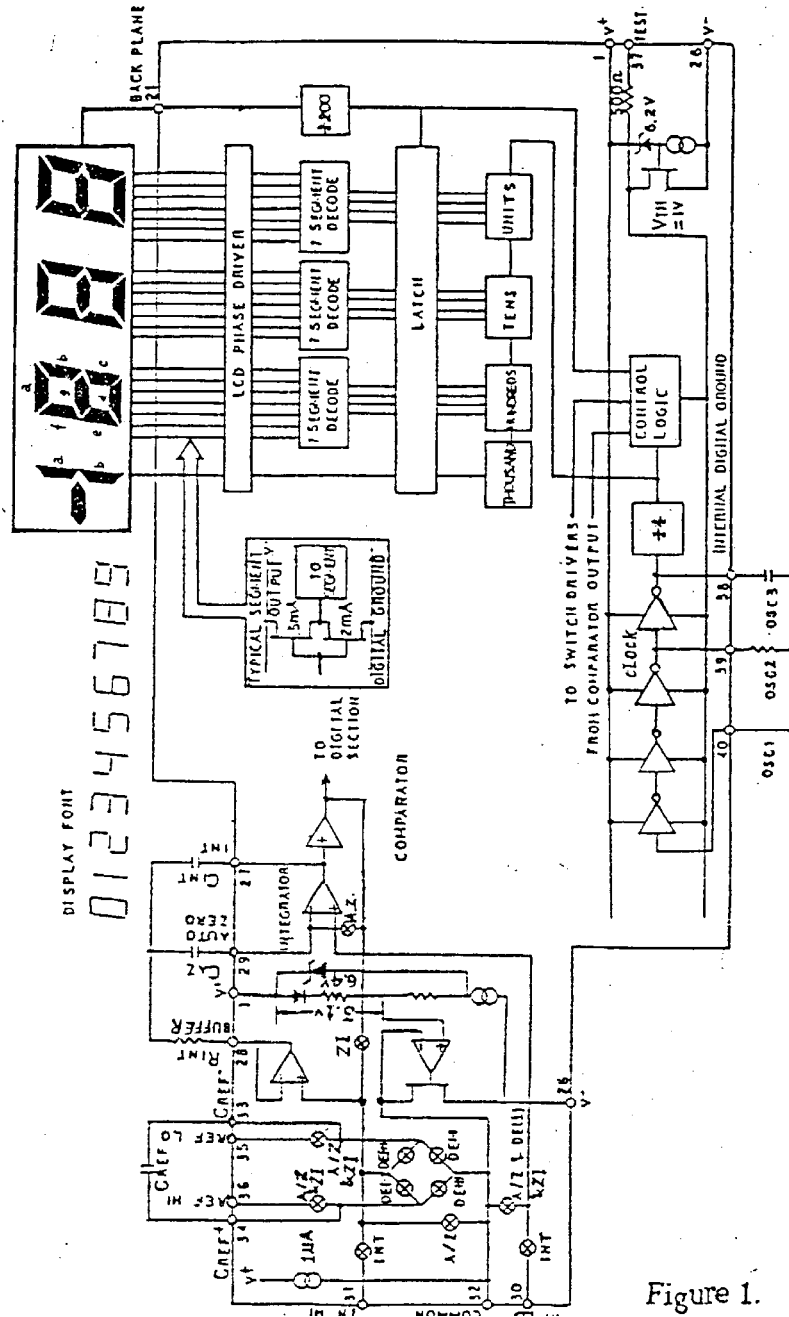

Figure 1.
The Analog Section of the ES5136 is a dual slope converter, which is shown in Figure 1. The conversion takes place in four distinct phases.
The digital section of the ES5136 is shown in Figure 1. A large P channel source follower and a 6 volts zener diode form the internal digital ground of ES5136. This formation is strong enough to absorb large capacitive currents when the back plane (BP) voltage is switched.